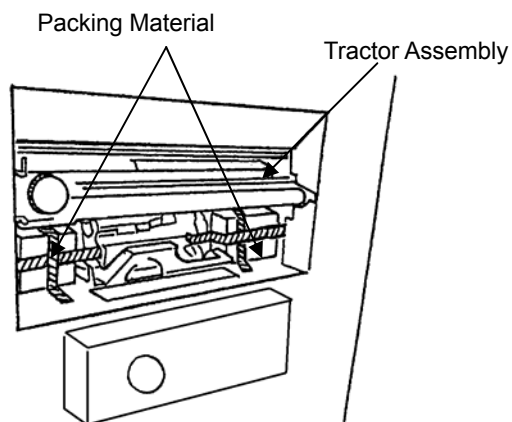

Figure 2-6
7. Remove the packing material from underneath the tractor assembly as shown in Figure 2-6.